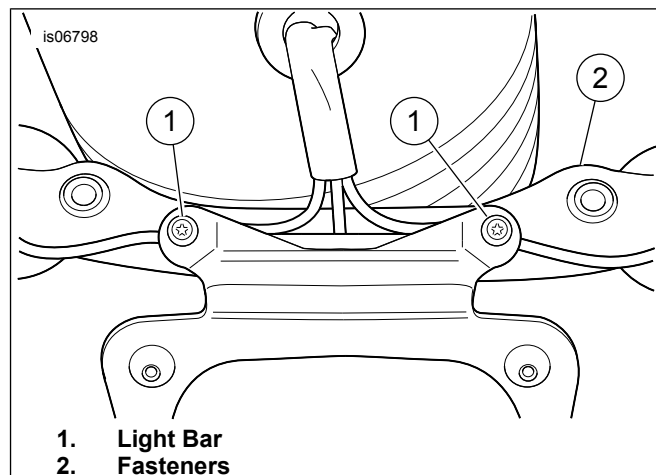

Figure 1. Back Plate
3. See Figure 1. Secure back plate from kit to light bar (2) with fasteners (1) retained from previous step. Tighten fasteners to 6.8–9 N·m (60–80 in-lbs).